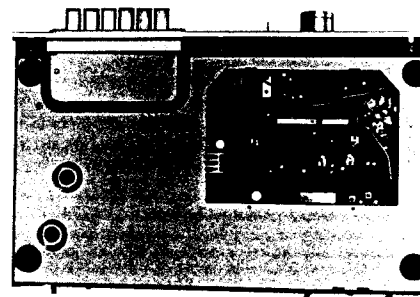

Figure 14
3. Follow this instructions, then adjustments can be done without removing the bottom plate. (See Figure 14).